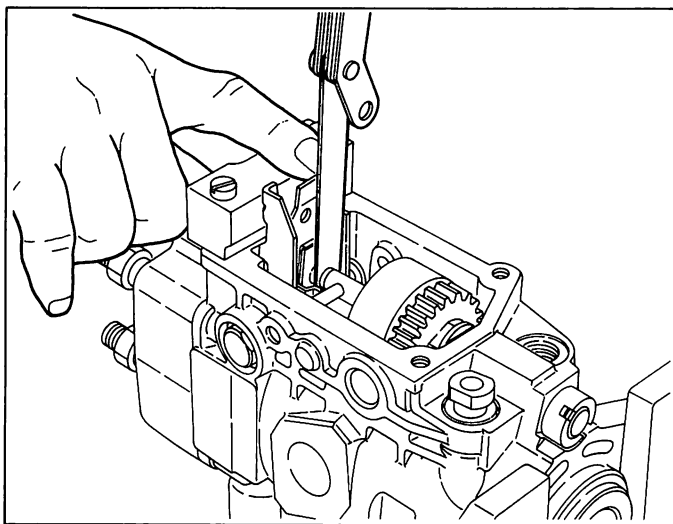

Fig. 88 Measuring the "MS" dimension
- 2 Push the corrector lever against the block gauge and the tension lever against the stopper pin pressed into the pump housing. Next, push the starting lever against the tension lever (the starting spring is compressed). Measure the "MS" dimension using a thickness gauge. (Fig. 88)